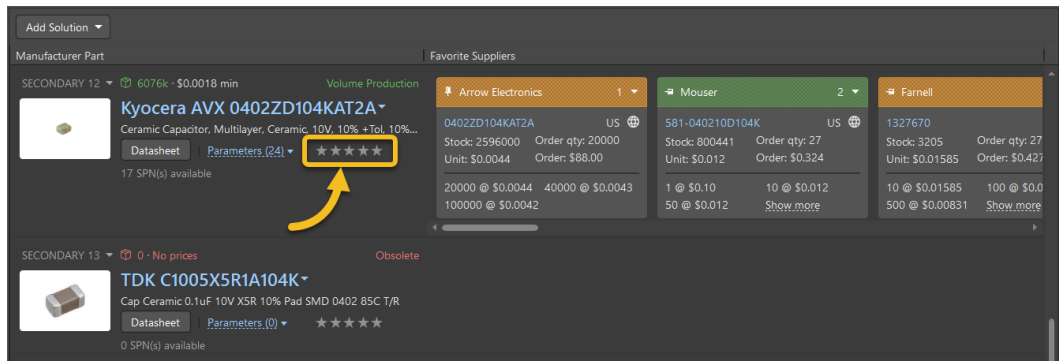

Figure 12a. Selecting the Preferred Supplier
29. If Yageo is not your preferred Supplier for the CAP C1 (as seen in Figure 12a below):